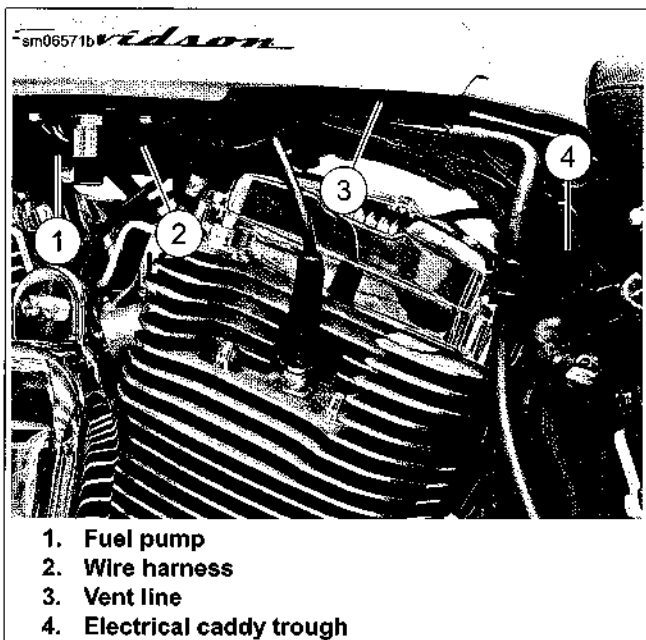

Figure 4-6. Fuel Pump Wire Harness Routing
6. See Figure 4-6. Route fuel pump wire harness.
- b. Route harness behind vent line (3).
- c. Route harness down through electrical caddy through (4).